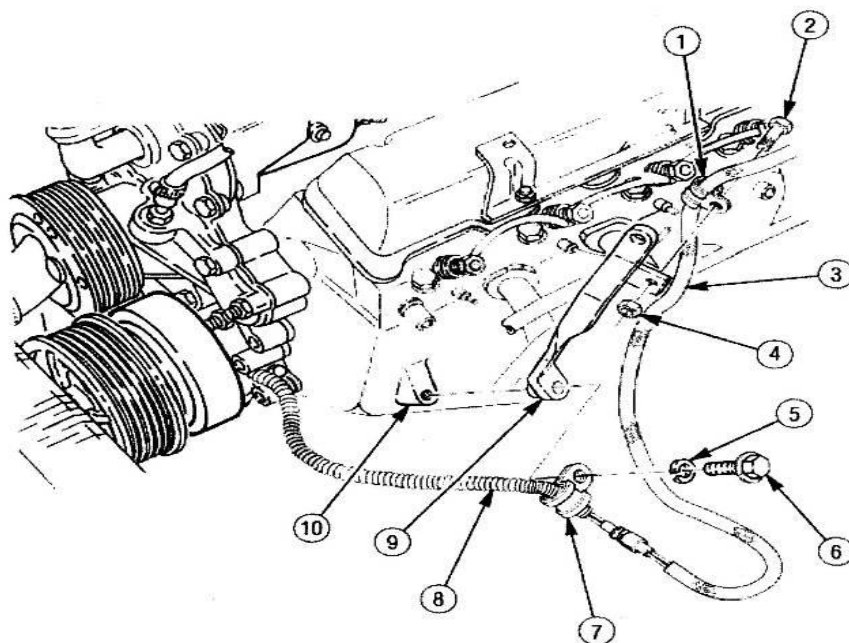

Figure 17
q. Removal of R.P.M Sensor Wire: TM 9-2320-387-24-2, Chapter 27, Task Para 27-3, Page 27-6 and **Figure 17** contained in these instructions.
(1) Remove screw (6) lock washer (5), clamp (7), RPM sensor wires (8), and alternator support (9) from engine block boss (10). Discard lock washer (5) and retain all parts.
(2) Remove nut (4), clamp (1), screw (2), and branch of engine wiring harness (3) from alternator support (9). Discard nut (4) and alternator support (9), and retain all other parts